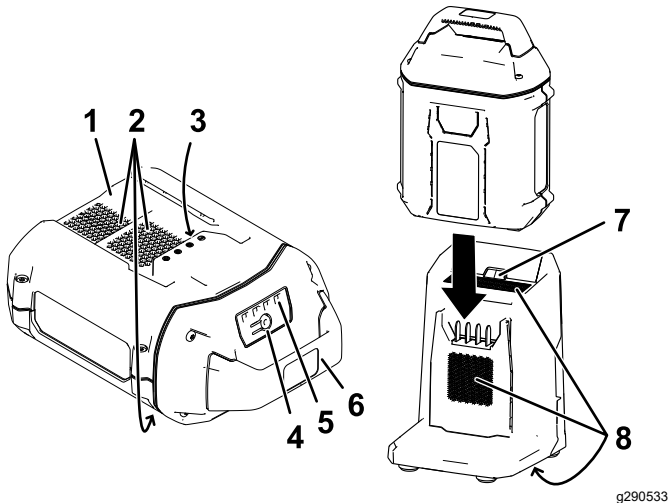

Figure 23
- 2. Line up the cavity in the battery pack (Figure 23) with the tongue on the charger.
- 3. Slide the battery pack into the charger until it is fully seated (Figure 23).